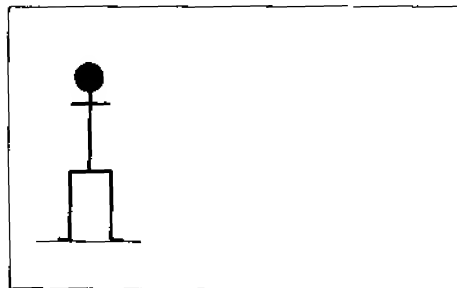

Figure 25.1 A pin-man without arms
2. Near to one 50 mm side of each card, in the same position and the same size, draw a pin-man without arms (see Figure 25.1).